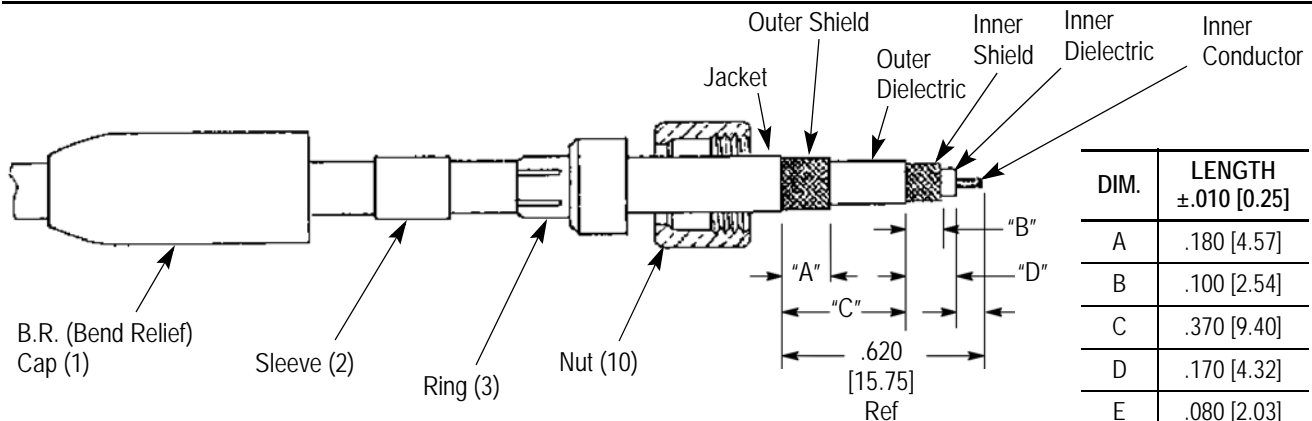

Figure 2
Slide bend relief cap (1), sleeve (2), ring (3), and nut (10) over triax cable as shown in Figure 2. Strip cable per dimensions shown in Figure 2.